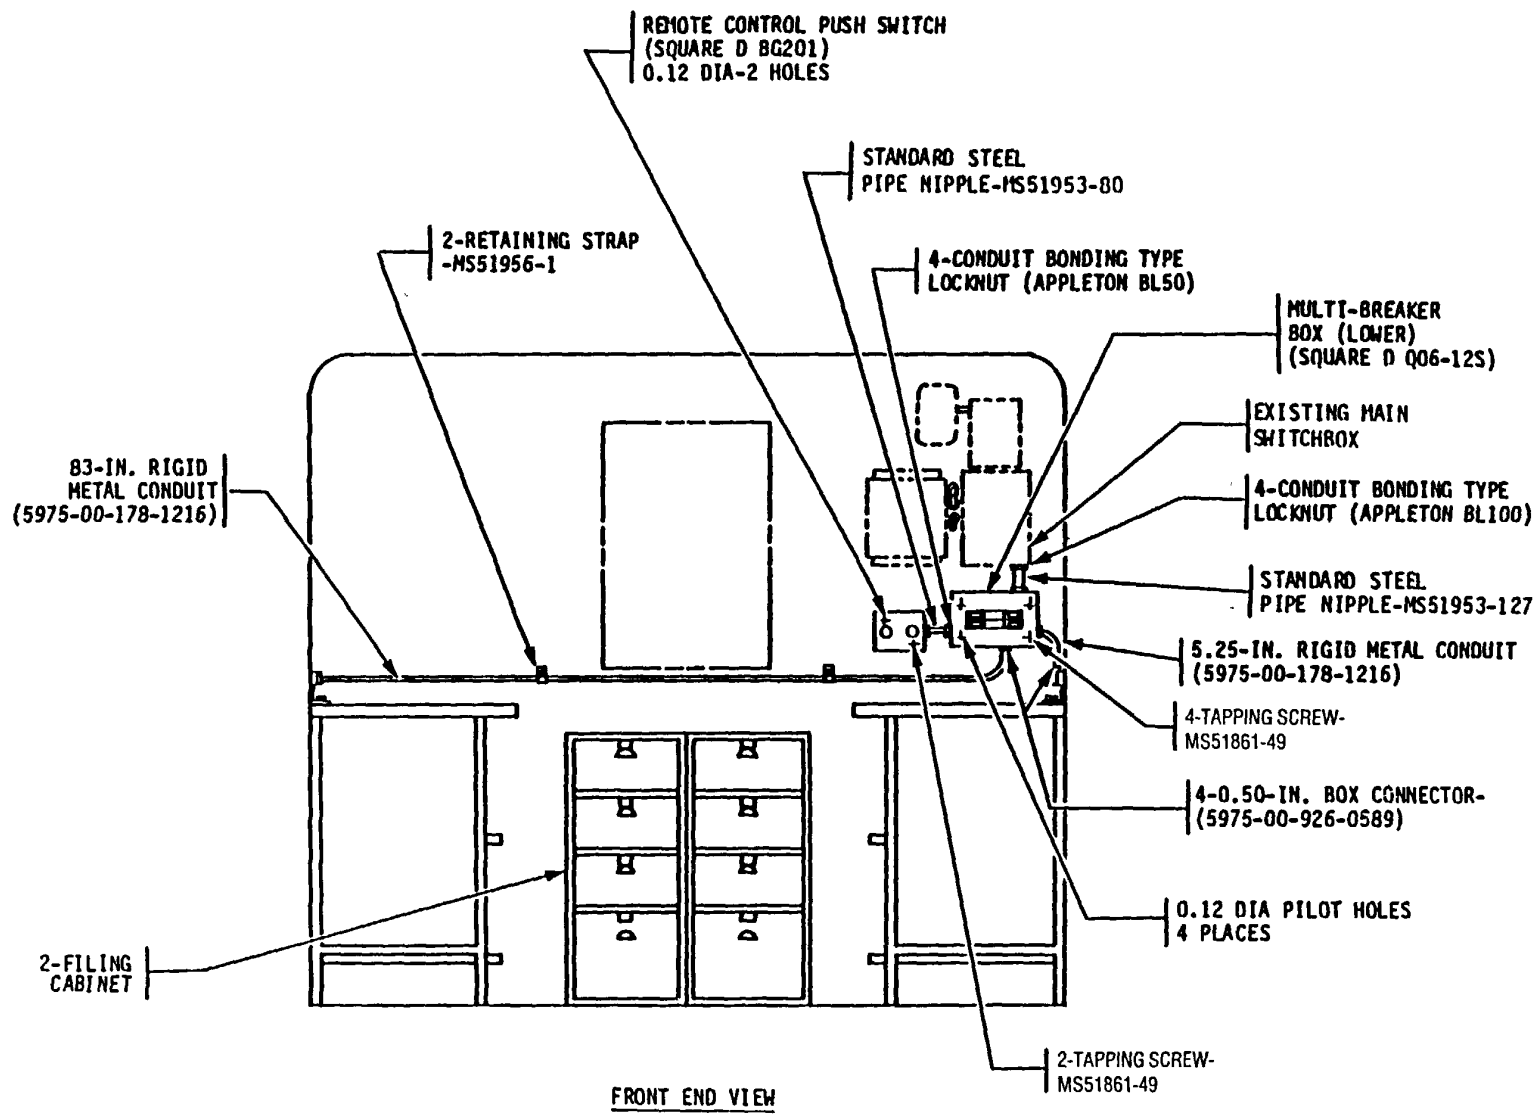

Figure 11. Electrical Component Installation, M109A3.
(16) Remove knockout in lower right side of main switchbox. Position 1- x 3-1/2-in. standard steel pipe nipple (MS51953-127) and secure to main switchbox using two 1-in. conduit bonding type locknuts (Appleton BL100) in accordance with figure 11.
(17) -Remove four screws from-cover of multi-breaker box (lower) (Square D Q06-12S). Remove knockout hole on upper right side. Assemble to standard steel pipe nipple (MS51953-127) and main switchbox using two 1-in. conduit bonding type locknuts (Appleton BL100) in accordance with figure 11.
(18) Using multi-breaker box (lower) (Square D Q06-12S) as a template, mark and drill four 0.12-in. diameter pilot holes through the van inner wall. Secure multi-breaker box (lower) to the van wall using four #10 x 1.00-in. thread forming screws (MS51861-49) in accordance with figure 11.
(19) Remove knockout located in lower left end of multi-breaker box (lower) (Square D Q06-12S) and install 1/2- x 3-in. standard steel pipe nipple (MS51953-80) using two 1/2-in. conduit bonding type locknuts (Appleton BL50) in accordance with figure 11.
(20) Remove cover and all internal components from remote control push switch (Square D BG201).. Remove knock-out in bottom end of remote control push switch nearest the stop button and assemble to 1/2- x 3-in. standard steel pipe nipple (MS51953-80) using two 1/2-in. conduit bonding type locknuts (Appleton BL50) in accordance with figure 11.
(21) Using mounting holes in the remote control push switch (Square D BG201) as a template,
mark and drill two 0.12-in. diameter pilot holes in van wall in accordance with figure 11. Secure remote control push switch with two #10 x 1.00-in. tapping screws (MS51861-49).
(23) Remove knockout in top of right side wiremold entrance end fitting (5975-00-673-7658) and assemble free end of 5.25-in. rigid metal conduit using 0.50-in. box connector (5975-00-926-0589) in accordance with figure 11.